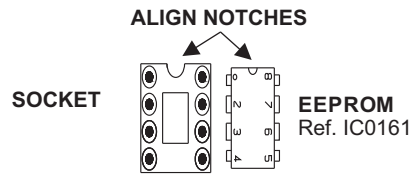

Fig. 2
**NB:** To avoid damaging the optional Eeprom during installation, carefully align notches (see Fig. 2).